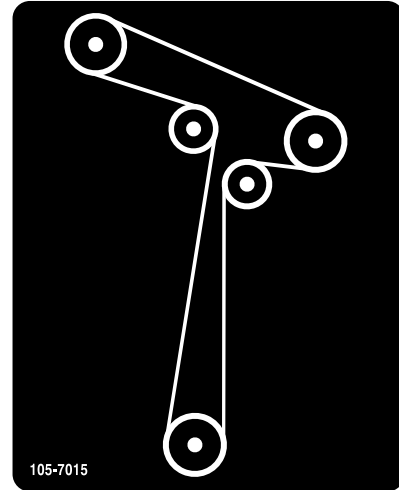

Figure 3
1. Install the mower belt (Figure 3), if removed. Refer to the Replacing the Mower Belt section in the *Operator's Manual*.